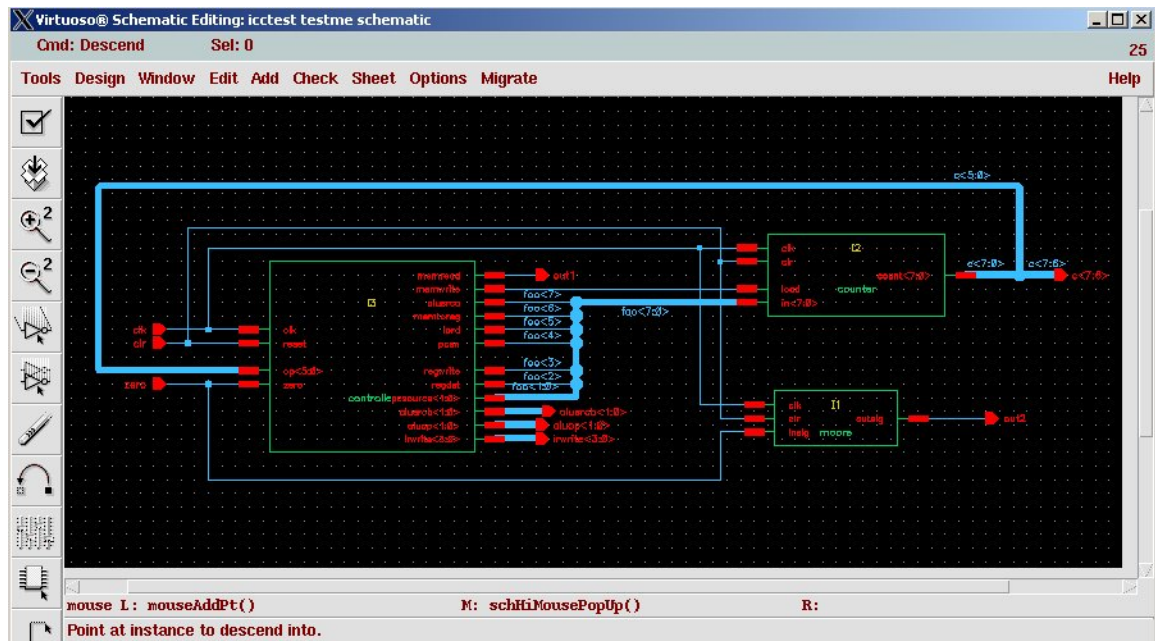
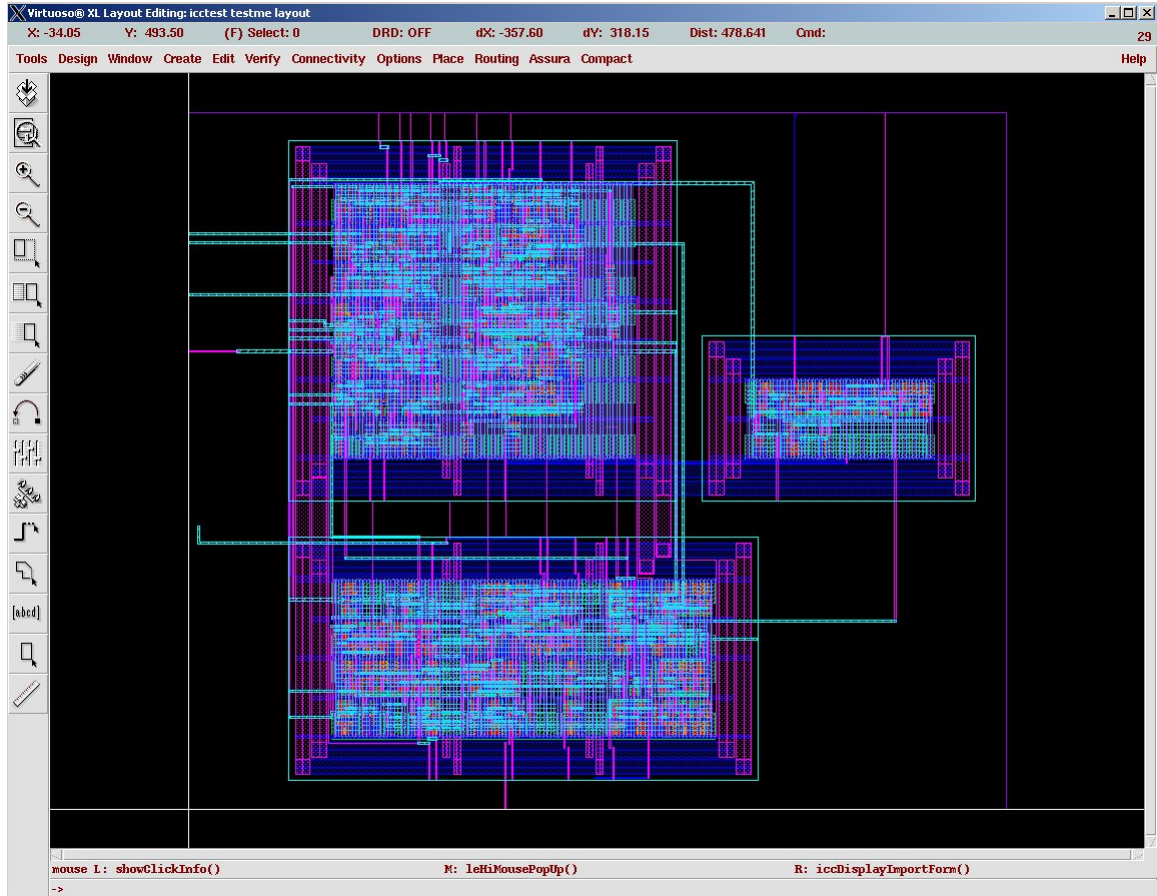

Figure 11.1: Starting **schematic** showing the three connected modules
Figure 11.10: Final routed circuit (shown in **Virtuoso** window)
will connect everything. For this example I'll take three modules that I've previously placed and routed with **SOC Encounter**: the **moore** example from Chapter 8, the **counter** example from Chapter 10, and the **controller** state machine from the MIPS example in the Harris/Weste CMOS textbook [1]. Connecting these cells together makes absolutely no functional sense, but it does show how three pre-assembled modules can be connected together with **ccar**. Each of these three examples has been imported into **icfb** using the procedure described in Chapter 10, Section 10.1.12. This means that I have (among other things) **layout**, **schematic**, and **symbol** views of each of these modules that I can use to make my new schematic as a starting point. The example starting schematic is shown in Figure 11.1. Note that this **schematic** can be in a whole new library if you like in order to keep things separated.
6. You also need to remove notches. These are little gaps in the routing that got left in because of corners being turned, or other features of the routing. Select **Autoroute** → **Postroute** → **Remove Notches**. The final routed circuit is shown in Figure 11.10.
For this example, I'll start with a core made up of the three blocks from the previous Section which were placed by hand in **Virtuoso-XL** and routed by **ccar**. Your core may be completely placed and routed by **SOC**, or it might include blocks routed by **ccar** or it might be completely custom. The point is to start with a completed core. A complete core should have (at least) **layout**, **schematic**, and **symbol** views, should have **vdd!** and **gnd!** connected in the core, and should pass DRC and LVS. The three-block example from Section 11.1 has all of these characteristics. The layout was seen in Figure 11.10 and the schematic in Figure 11.1. The symbol was created using **Design** → **Create Cellview** → **From Cellview** and is seen in Figure 11.11.